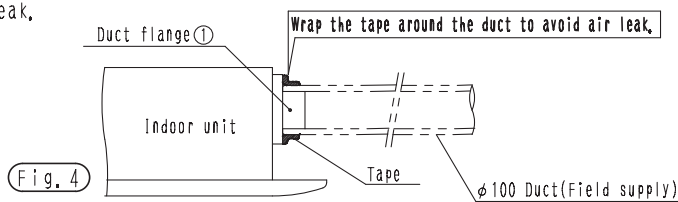

Fig. 4
- Connect the duct to the duct flange. (Flange fits inside the duct,)(Fig. 4)